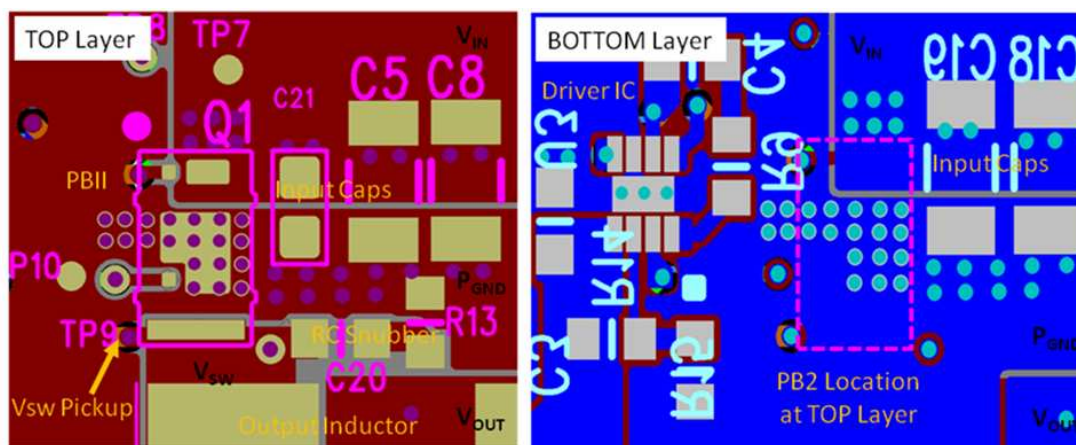

Figure 29. Recommended PCB Layout (Top Down View)
- The placement of the input capacitors relative to VIN and PGND pins of CSD87588N device should have the highest priority during the component placement routine. It is critical to minimize these node lengths. As such, ceramic input capacitors need to be placed as close as possible to the VIN and PGND pins (see Figure 29). The example in Figure 29 uses 1 x 10 nF 0402 25 V and 4 x 10 μ F 1206 25 V ceramic capacitors (TDK part number C3216X5R1C106KT or equivalent). Notice there are ceramic capacitors on both sides of the board with an appropriate amount of vias interconnecting both layers. In terms of priority of placement next to the Power Stage C21, C5, C8, C19, and C18 should follow in order.
- The switching node of the output inductor should be placed relatively close to the Power Block II CSD87588N VSW pins. Minimizing the VSW node length between these two components will reduce the PCB conduction losses and actually reduce the switching noise level. See Figure 29.⁽¹⁾
- Use the smallest drill size allowed in your design. The example in Figure 29 uses vias with a 10 mil drill hole and a 16 mil capture pad.